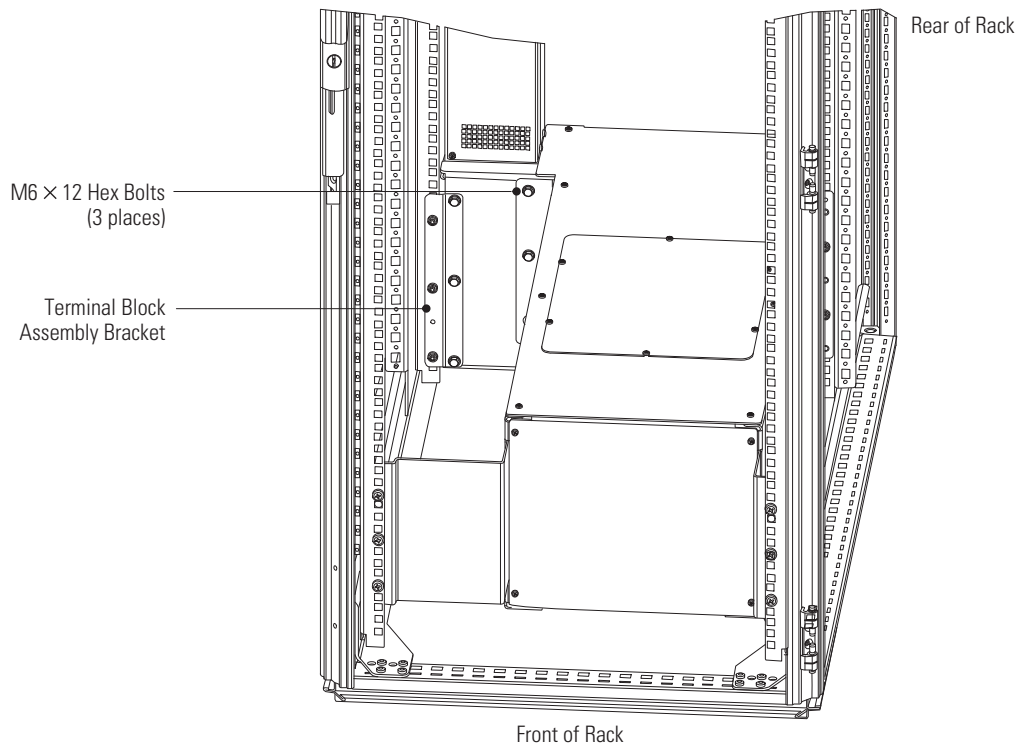

Figure 5. Terminal Block Assembly Installation
10. Note the orientation of the terminal block assembly bracket installed on the bar for later re-installation (see Figure 5). Remove and retain the terminal block assembly bracket and hardware.
12. Secure the bar to the wireway with three M6 x 12 hex bolts. Install the bolts from the **front** of the rack. See Figure 5. Torque the bolts to 5.1 ± 0.8 Nm (45 ± 7 lb in).
13. Reinstall the terminal block assembly bracket removed in Step 10. Install the bolts from the **front** of the rack. See Figure 5. Torque the bolts to 5.1 ± 0.8 Nm (45 ± 7 lb in).